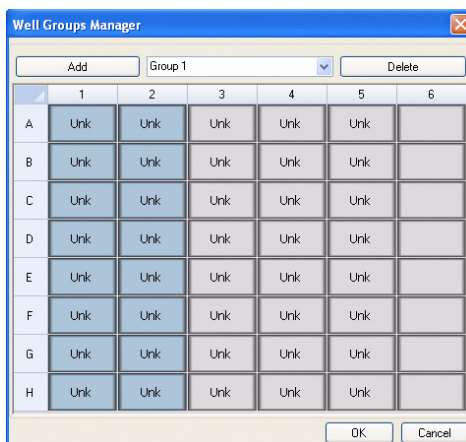

Figure 38. Color of wells in the Well Group Manager window.
3. Select the wells that will compose the well group in the plate view by clicking and dragging across the group of wells. Selected wells turn blue in color (Figure 38).